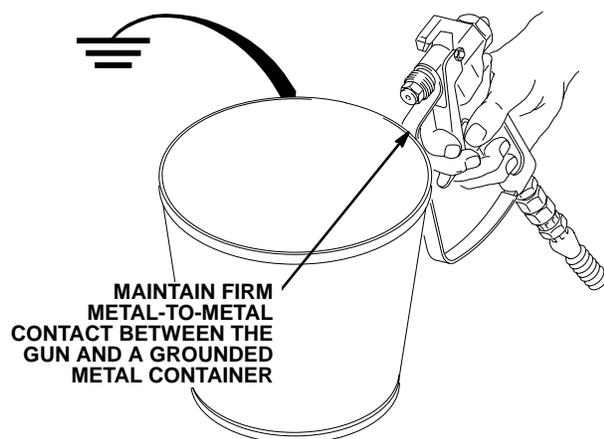

Fig. 9
6. Disengage the gun safety latch. Point the spray gun into a metal waste container. With a metal part of the gun firmly touching the metal container, squeeze the gun trigger. See Fig. 9. This procedure helps reduce the risk of static sparking and splashing. Start the sprayer, trigger the gun, and slowly turn the pressure adjusting knob clockwise, just until the pump starts. Keep the gun triggered until clean solvent comes from the nozzle. Release the trigger. Engage the gun safety latch.